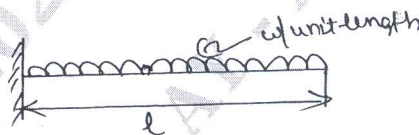

Fig.Q8(b)
b. Derive an expression for deflection of a cantilever beam with uniformly distributed load as shown in Fig.Q8(b).